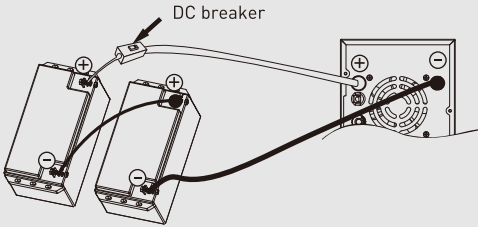

Fig. 1
Step 1- Install a DC Breaker in a positive battery line. The rating of the DC Breaker must be according to the inverter's battery current (50 Amp). Keep the DC breaker off. (see Fig. 1)
1) Single Battery Connection (Refer to Fig. 1):